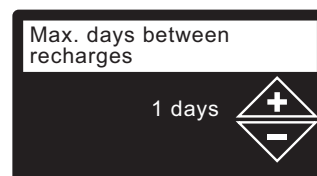

FIG. 30
13. **MAX. DAYS BETWEEN RECHARGES** (on all models except ECCWS central water filtration system). Press the UP (▲) or DOWN (▼) buttons to set the number of days between automatic recharges (See Figure 30). The feature can be set from 1 to 99 days.